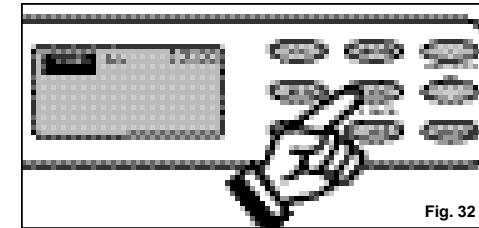
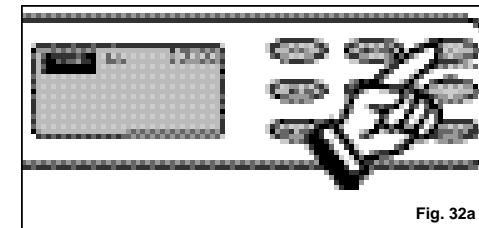
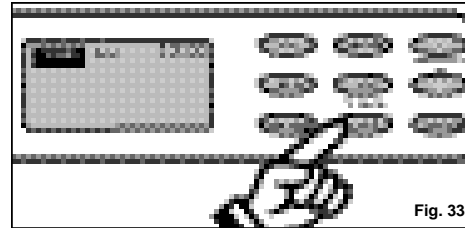
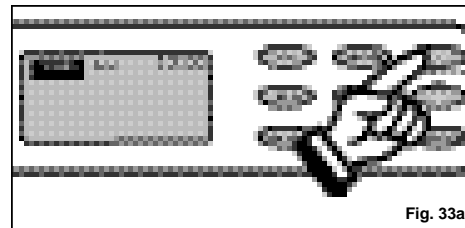

Fig. 32
Fig. 32a
Fig. 33
Fig. 33a
- Press the **TIMER-ON** key pad to initiate the **AUTO-ON** time sequence. Fig. 32. The display window will indicate **TIMER-ON** and the word **ON** will flash for 5 seconds. Press the ▲ or ▼ key to select the desired **AUTO-ON** start time. Fig. 32a.
- 2) Press the **TIMER-OFF** key pad to initiate the **AUTO-OFF** time sequence. Fig. 33. The display window will indicate **TIMER-OFF** and the word **OFF** will flash for 5 seconds. Press the Δ or ∇ key pad to select the desired **AUTO-OFF** time. Fig. 33a.
- 1) Press the **TIMER-ON** key pad to initiate the **AUTO-ON** time sequence. (Fig. 32). The display window will indicate **TIMER-ON** and the word **ON** will flash for 5 seconds. Press the **△** or **▽** key pad to select the desired **AUTO-ON** start time. (Fig. 32a). **▽** key pad will decrease the **AUTO-TIMED** setting in 10 minute increments. **△** keypad will increase the **AUTO-TIMED** setting in 10 minute increments. When the desired time is established, (the time will flash in the display window) press the **CLOCK** key pad to register the **AUTO TIMER-ON** program. The word **ON** will stop flashing and remain "on" (**TIMER ON**) indicating the program is set. The time of day clock setting will immediately revert back in the display window.
- 2) Press the **AUTO-OFF** key pad to initiate the **AUTO-OFF** time sequence. (Fig. 33). The display window will indicate **TIMER-OFF** and the word **OFF** will flash for 5 seconds. Press the **△** or **▽** key pad to select the desired **AUTO-OFF** time. (Fig. 32a). **▽** key pad will decrease the **AUTO-TIMED** setting in 10 minute increments. **△** keypad will increase the **AUTO-TIMED** setting in 10 minute increments. When the desired time is established, (the time will flash in the display window) press the **CLOCK** key pad to register the **AUTO TIMER-OFF** program. The word **OFF** will stop flashing and remain "on" (**TIMER OFF**) indicating the program is set. The time of day clock setting will immediately revert back in the display window.